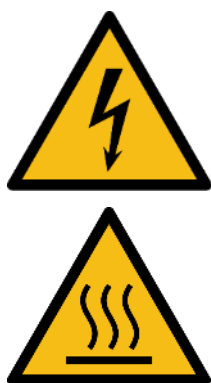

Figure 7: SICRIT® Interface SZ3 after complete installation.
- Switch to the source settings and set recommended values according to Tab. 1 (see Fig. 7).